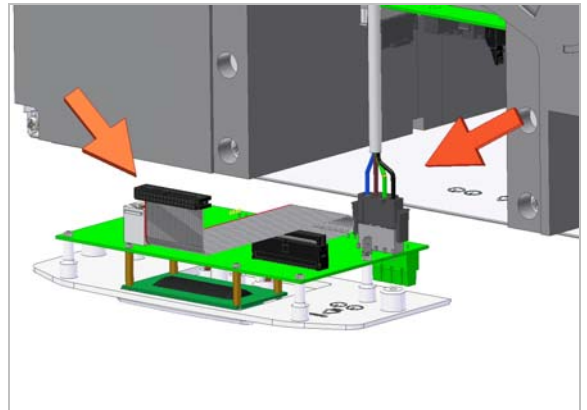

Figure 8: Disconnecting the Ribbon cable (Front of Unit)
5. Disconnect the ribbon cable (see *Figure 8*).